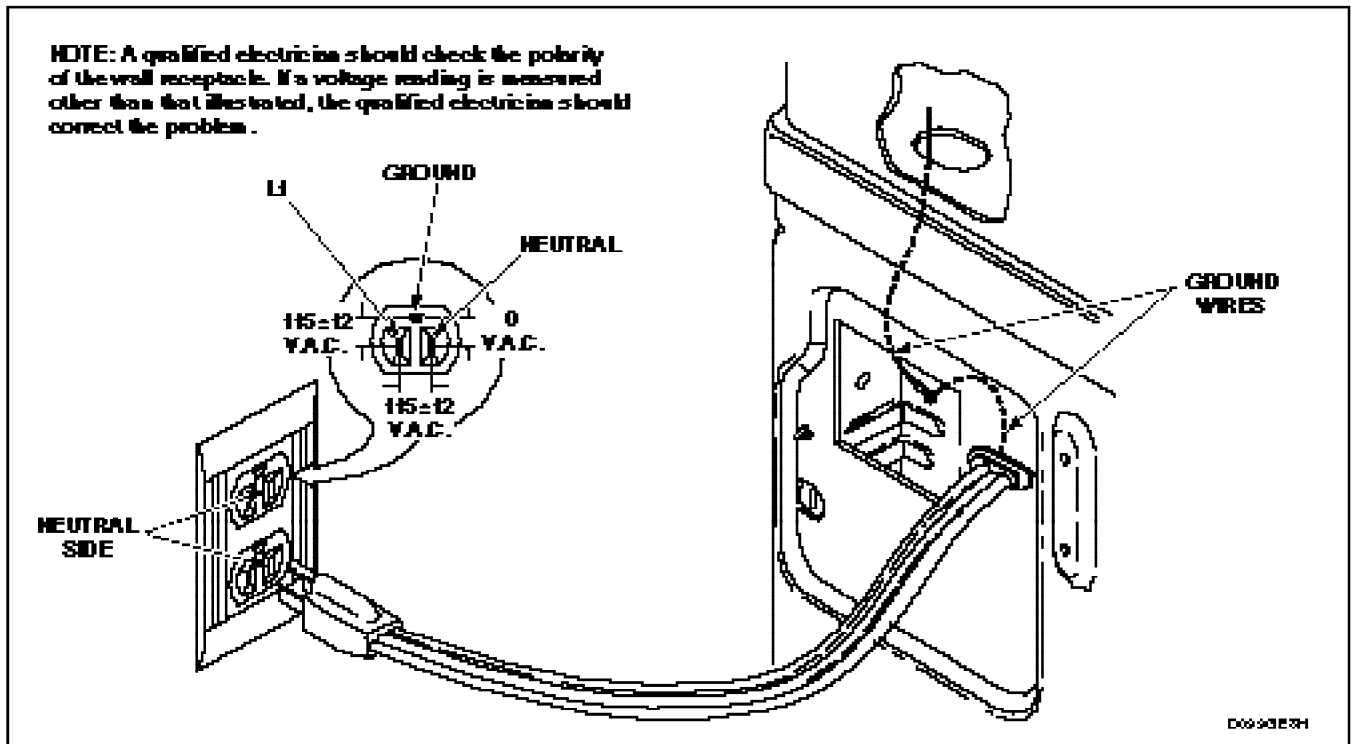

Figure 3
3. **POWER CORD TO REAR BULKHEAD AND FROM REAR BULKHEAD TO CONTROL HOUSING. WALL RECEPTACLE POLARITY CHECK (Gas Models Only — Figure 3).**